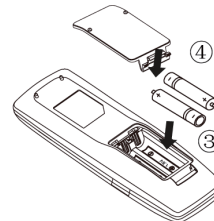

Fig. 2
(3) Place two 7# (AAA 1.5V) dry batteries, and make sure the position of "+" polar and "-" polar is correct (as shown in Fig 2 ③).
(4) Reinstall the cover (as shown in Fig 2 ④).